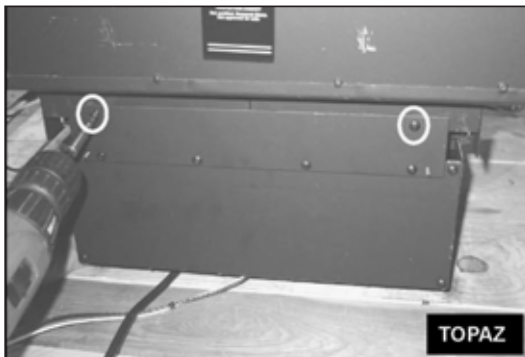

Figure 2
3. Mount the blower to the rear of the appliance using two screws, as shown in **Figures. 2 and 3.**